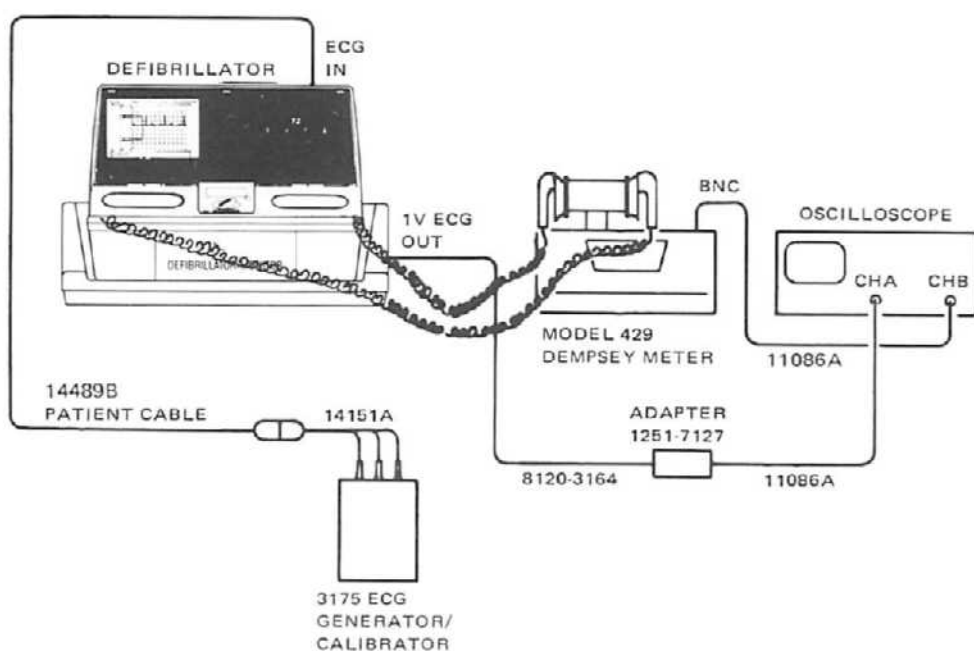

Figure 3-25. R Wave/Sync Pulse/Discharge Delay Test Setup.
1. Connect the test equipment as shown in Figure 3-25.